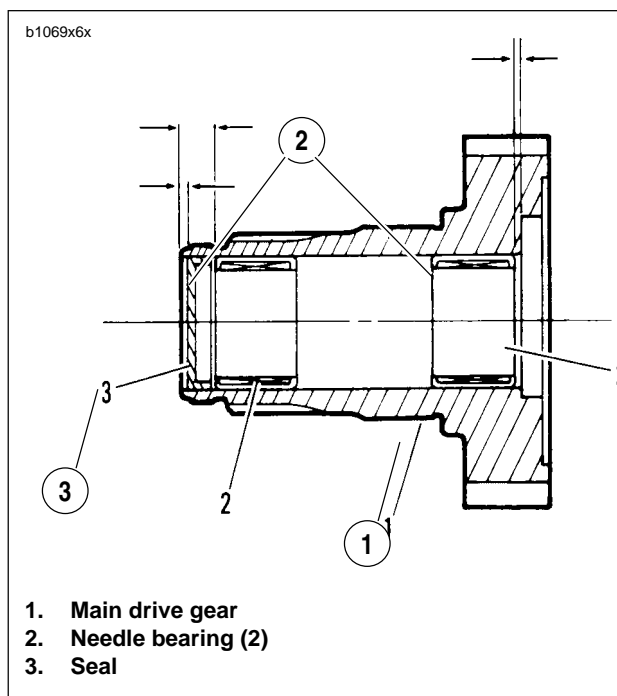

Figure 6-41. Lubricating Main Drive Gear Needle Bearings
2. See Figure 6-41. Lubricate both main drive gear needle bearing assemblies and the mating surface of the mainshaft with HARLEY-DAVIDSON SPECIAL PURPOSE GREASE (Part No. 99857-97).